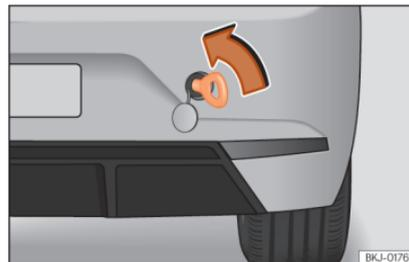

Fig. 50 Right side of the rear bumper: towline anchorage in position.
- Screw the towline anchorage into the housing by turning it as far as it will go **anticlockwise** »» Fig. 50»» ⚠. Use a suitable object that can completely and securely tighten the towing eye in its housing.